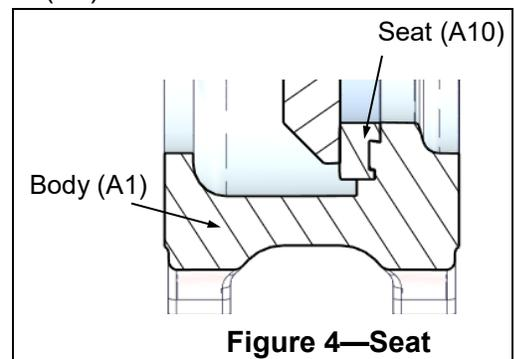

Figure 4—Seat
- a. Note the gate side and body side of the seat as shown in Figure 4.
1. Reassemble the gate (A3) in the body, with the beveled edge facing away from the resilient seat. See Figure 4.